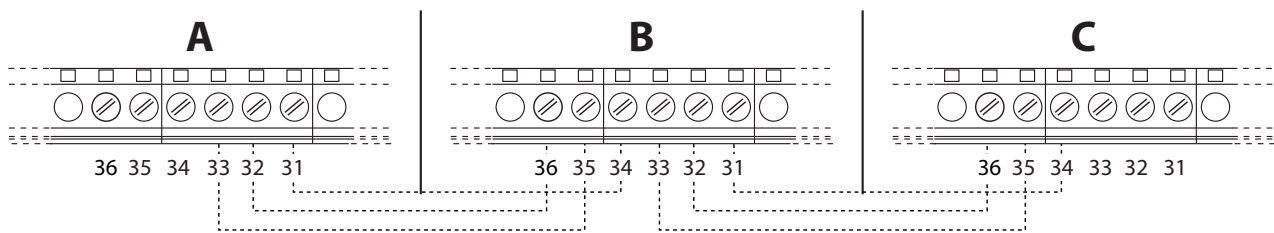

fig. 56- Cascade connection
1. Connect the modules as shown in fig. 56 (example with 3 modules)
If this does not occur, disconnect the power and check the wiring in fig. 56. .